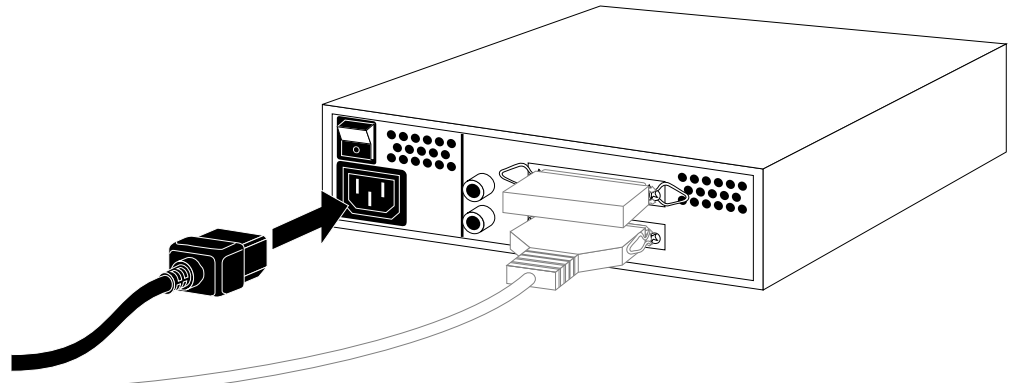

Figure 5-9 Connecting the Power Cable to an External Device
6. Connect one end of the power cable that came with the external device to the power connector on the back of the device, as shown in Figure 5-9.